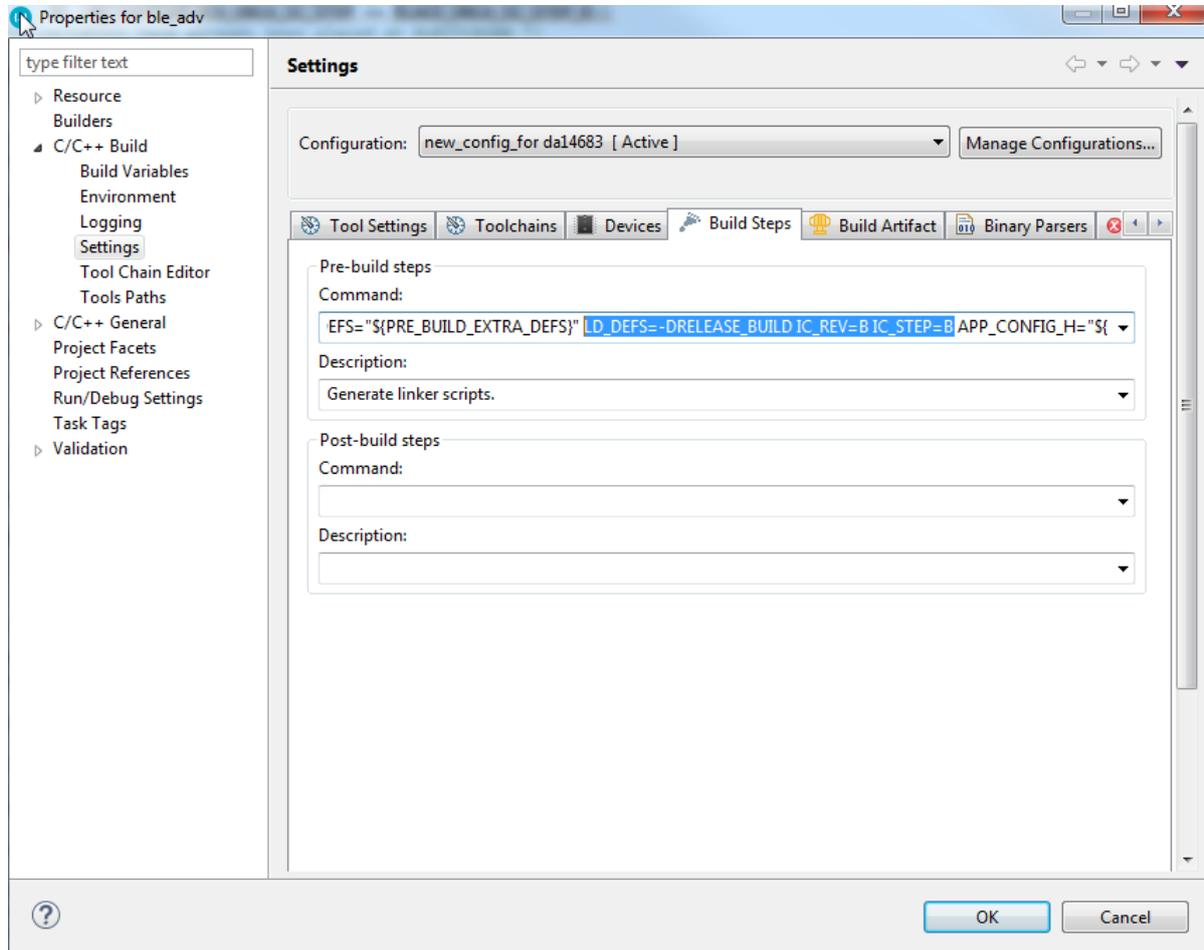

Figure 7: Edit Pre-build configuration
| Figure 7: Edit Pre-build configuration .....   | 7 |
- In the **Build Steps** tab, the command in the **Command** of the **Pre-build Steps** edits the IC revision to match the compiler parameters (Figure 7).